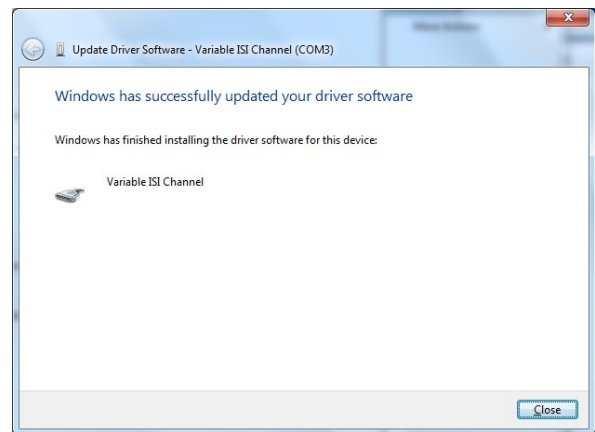

FIGURE 64. WINDOWS SECURITY WINDOW AND CONFIRMATION WINDOW
- d) Click **Next** and then click **Install** to complete installation for the driver software. See Figure 64.